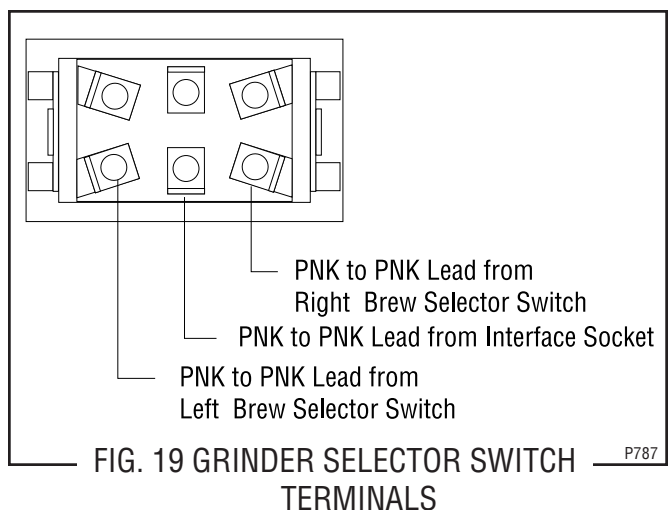

FIG. 19 GRINDER SELECTOR SWITCH
11. Refer to Fig. 19 when reconnecting the wires.